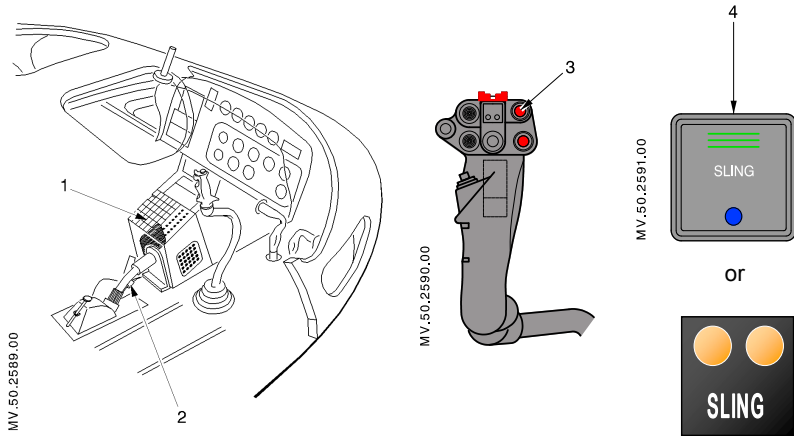

Figure 2: Cargo swing controls
- A control system for the pilot (Figure 2), including:
- a [SLING] pushbutton (4) located on the console (1), for powering-on the installation,
- a release control (3) on the cyclic stick (electrical mode),
- a release handle (2) located under the collective lever (mechanical mode).